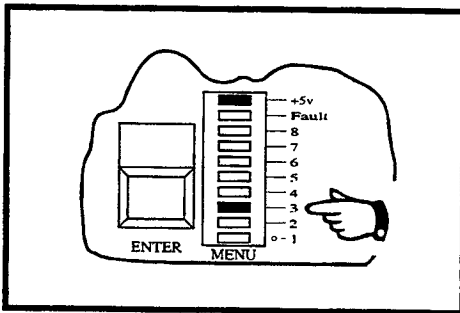
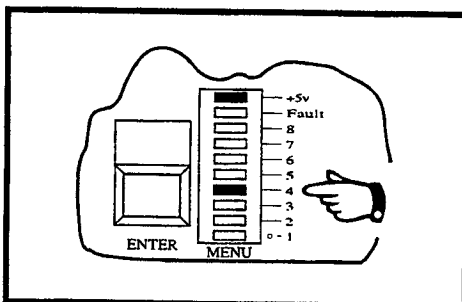

Figure 3-8
Figure 3-9
- (f) Press the blue **FUNCTION** key **THREE** times. The **Menu** display should cease scrolling and the segment labelled **3** should illuminate. This segment identifies the SP#1 menu function. See Figure 3-8. If you wish to programme SP#2, press the **FUNCTION** key **FOUR** times. The segment labelled **4** should illuminate. See Figure 3-9.